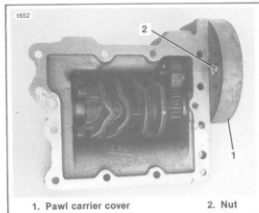

Figure 7-5. Pawl Carrier Cover Mounting
4. See Figure 7-5. Remove the pawl carrier cover (1) mounting screws and gasket. The bottom mounting screw is secured by a nut (2) at the back of the adapter plate.
- See Figure 7-5. Lubricate the back of the pawl carrier with a multi-purpose grease. Install the cover gasket and cover so that the notch on the cover lines up with the notch on the adapter plate. Apply Loctite LOCK N' SEAL to the threads of the mounting screws. Install the shorter mounting screw in